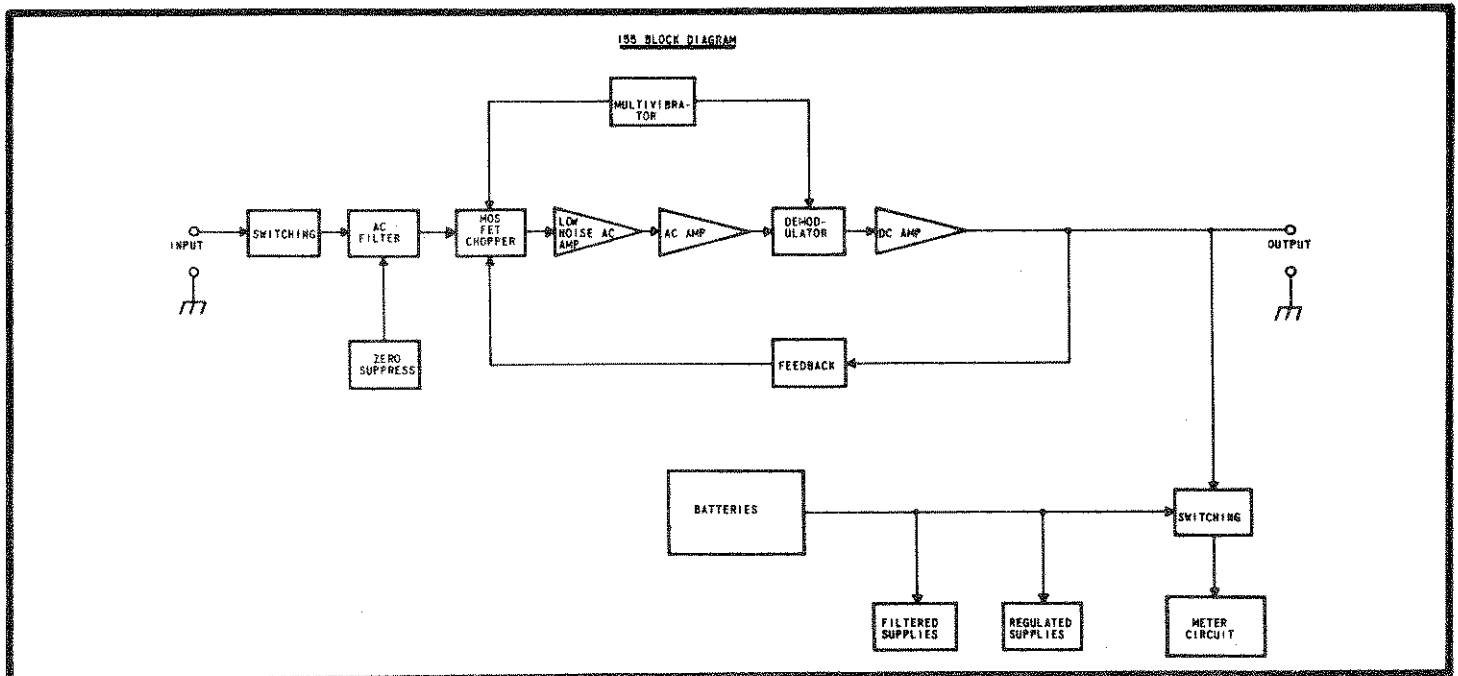

FIGURE 3. Block Diagram of Model 155 Circuits.
a. The Keithley Model 155 Microvoltmeter is basically composed of a variable gain chopper amplifier, an offset voltage suppression circuit, an ac attenuator filter, input attenuators, an output monitoring circuit and power supplies (See Figure 3).